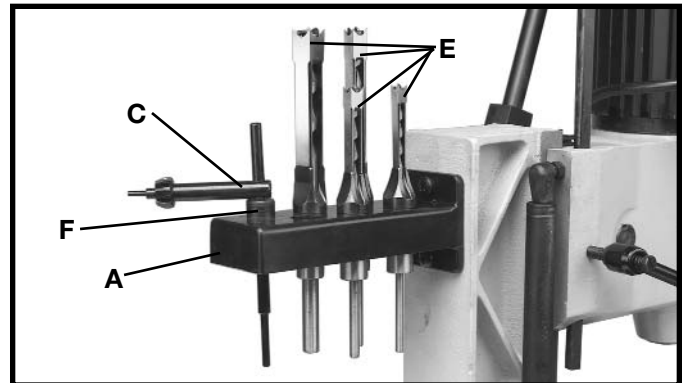

Fig. 8
2. Fig. 8, illustrates the chuck key/wrench (C), bushing (F) for use with extra long chisels, and chisels and bits (E) in holes of tool and chisel holder (A) when not in use.